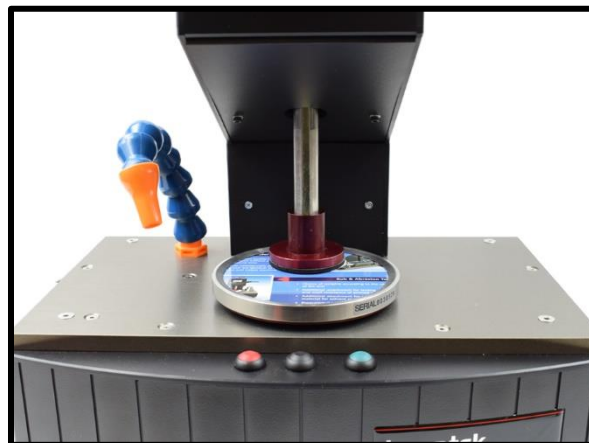

Fig 11
- Lower the sample head using the handle, adjusting the sample so that when fully lowered, the printed sample is exactly covered by the foam pad (fig 11).